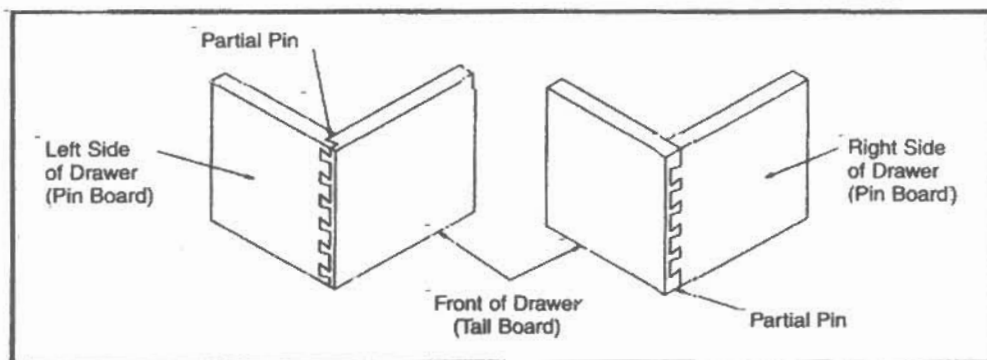

Fig. 12
9. Fig. 12 shows both the left and right corner of a drawer fitted together after they were both routed from the left end of the template. Note the location of partial pins on drawer sides.